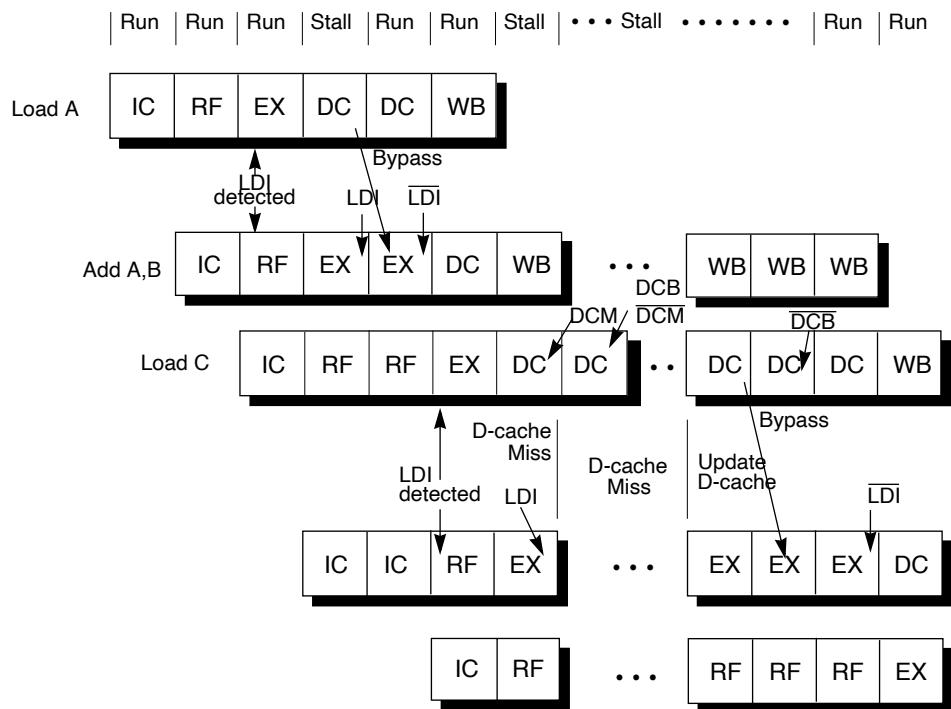

Figure 4-17 Example of a Data Cache Miss Followed by a Load Interlock
This case is illustrated in Figure 4-17.
Figure 4-17 illustrates DCM.
- When a miss occurs on a load, the data cache signals it is busy while it fetches the missed data word from external memory. Refer to **Figure 4-17**.